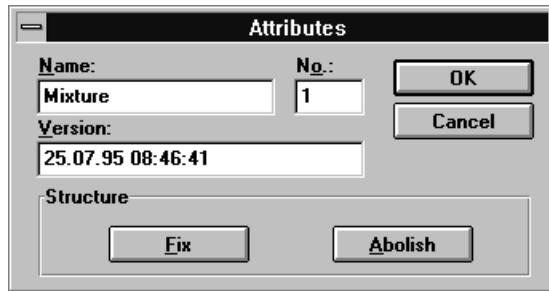

Bild 9-6 *Attributes* Dialog Box with Settings
1. Click in the *Recipe* dialog box on the *Attributes* button. At this point, modify the name of the recipe to *Mixture*. Freeze the structure of the recipe by clicking on the *Fixbutton*. All the entries in the recipe are now dimmed. Figure 9-6 shows the *Attributes* dialog box with the settings.